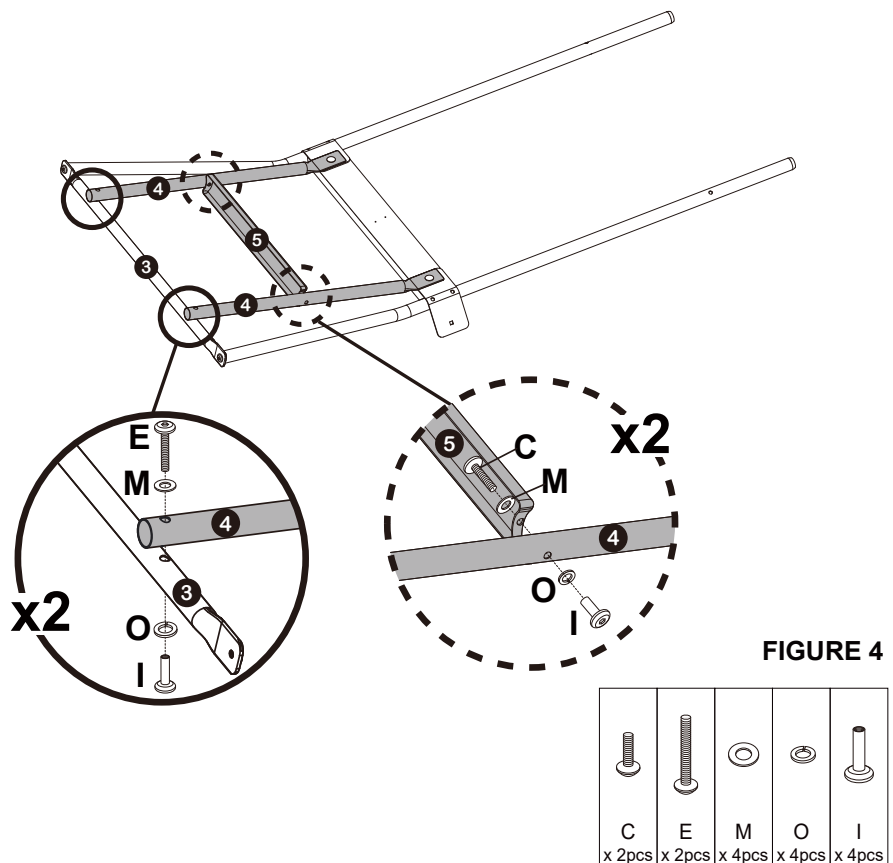

FIGURE 4
- Attach Ladder Support Tube (4) to Base Connection Tube (3).
- Attach Ladder Stepper (5) to Ladder Support Tube (4) as shown in Figure 4.